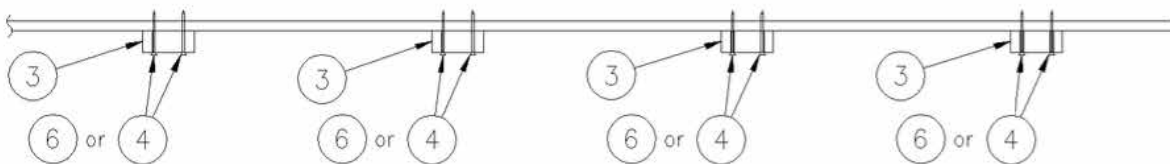

Fig. 16
Step 6B - Insert three 3" flat head fasteners into the mounting block or 2x4 or 2x6 and securely attach the wood mounting block or 2x4 or 2x6 to the wall. (Fig. 16) Lightly mark the centerline of each mounting block or 2x4 or 2x6 where holes have been drilled along the width of the 2x4 or 2x6 (top and bottom) on the wall to align where fasteners (1-1/2" trim screws, Step 8B) will attach Beam Mantel to blocks or 2x4 or 2x6. (If stone or masonry brick, use Tapcon screws.)